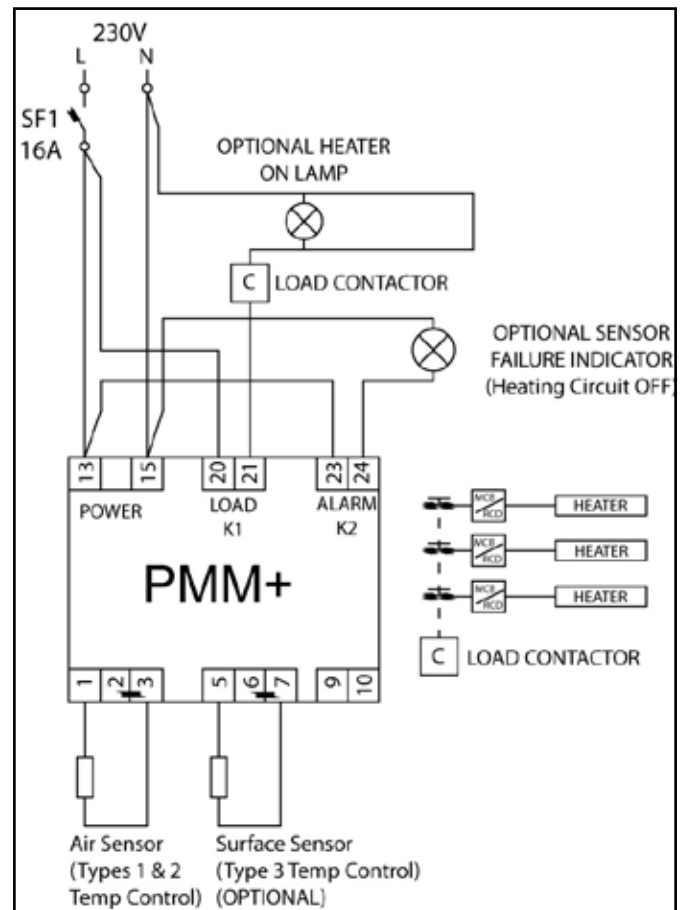

Fig 3 Wiring Diagram suitably rated external contactor / solid state relay
- b) external suitably rated contactor (see Fig 3).